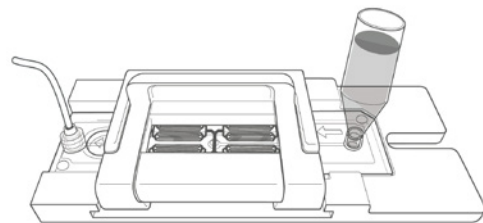

Fig. 33. 10 mL of prepared blood sample added to Inlet Funnel on Celselect Slide Station.
1. Add 10 mL of sample to Inlet Funnel of each Celselect Slide Station (Figure 33).